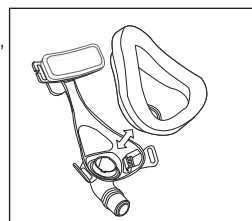

Figure 9
2. **Mask Cushion** - Use your thumbs to press the cushion past the retaining tabs on the elbow and press into place (Figure 9).